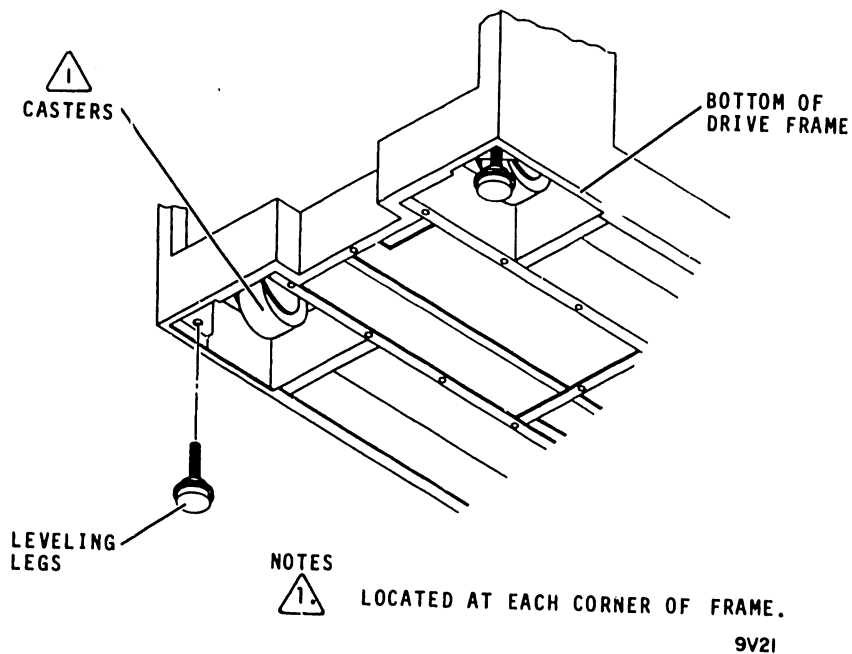

Figure 1-7. Leveler Bolt Access
3. Use a 9/16-inch wrench on the hex surface (just above the pad) of each leveler to lower the levelers until the casters are off the floor (refer to figure 1-7).